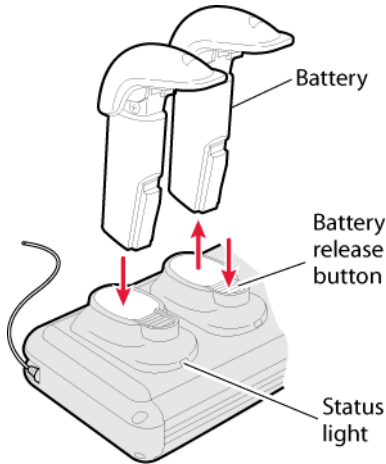

Figure 2. Scan Handle Dual Battery Charger
2. Insert one or two batteries into a slot in the charger (Figure 2).